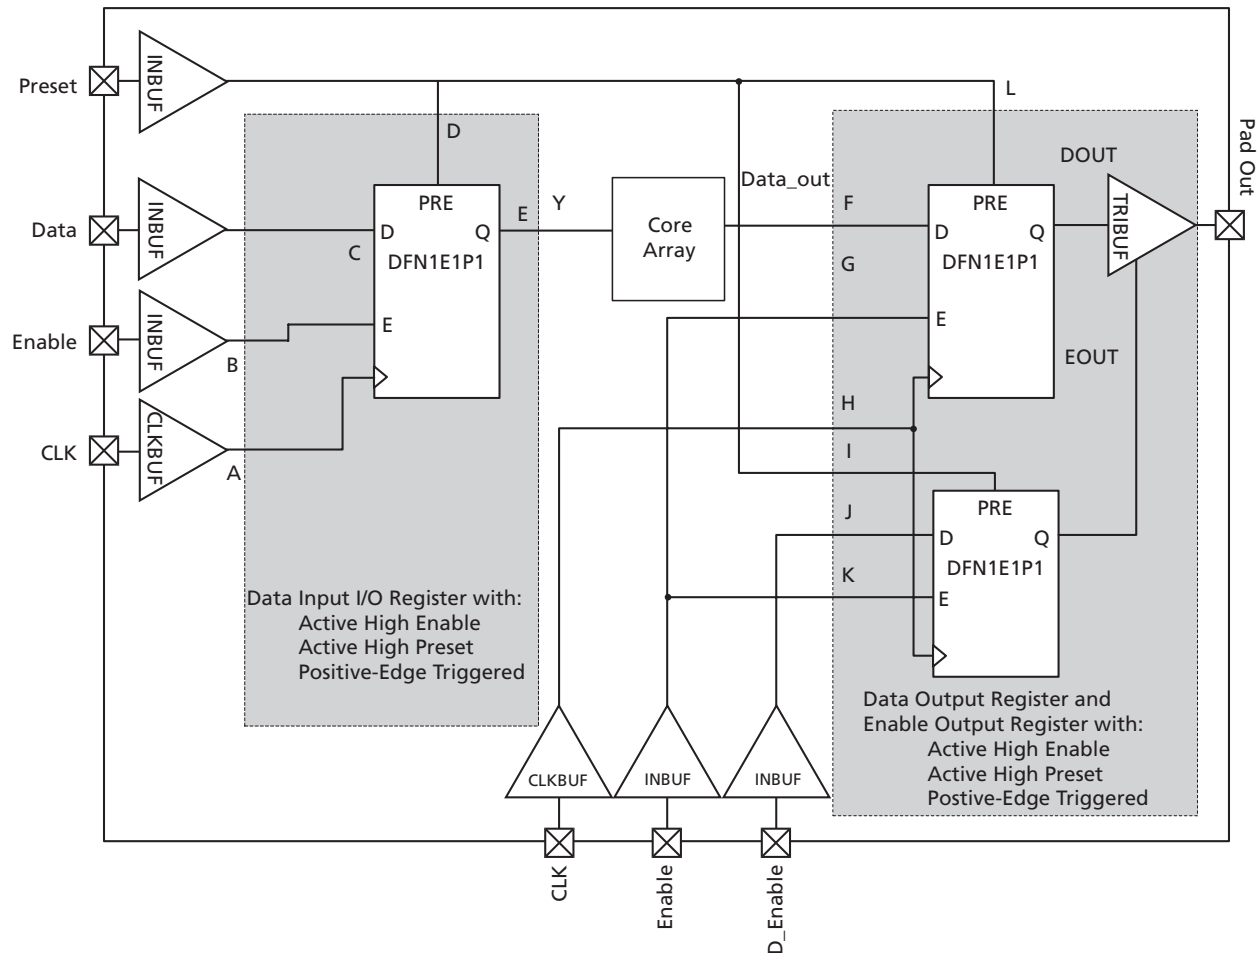

Figure 2-26 • Timing Model of Registered I/O Buffers with Synchronous Enable and Asynchronous Preset
* See Figure 2-26 on page 2-77 for more information.